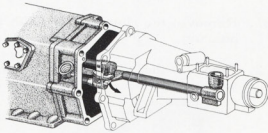

Fig. 9-7 Extension Housing X6192 No. 1 Removal
b. Next, disengage the shift and select shaft from the fifth and reverse fork shaft as shown in figure 9-7. Next, remove the extension housing No. 1, and the gasket.